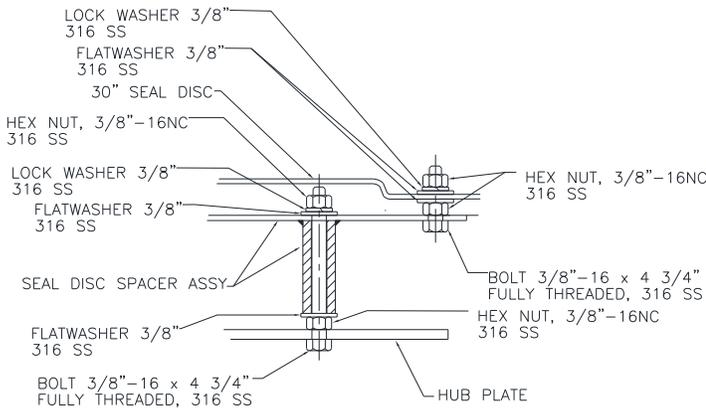
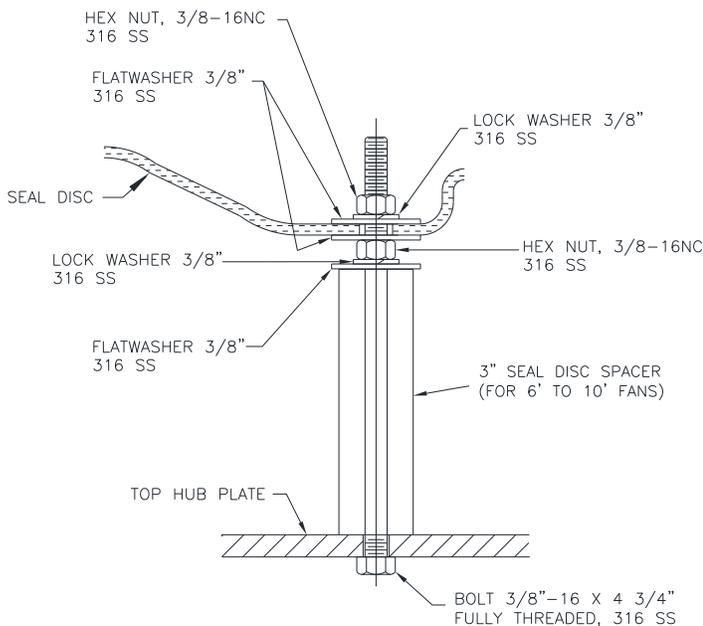

Figure 10: For 5' Dia. Fan Assemblies
Figure 11: For 6' to 10' Dia. Fan Assemblies
Fasten seal disc to top of hub with four (4) $3/8"$ cap screws, as shown in Figures 9. See Figure 10 for 5' fans, Figure 11 for 6' to 10' fans, and Figure 12 for 11' to 12' fans. Tighten to recommended standard of 15 ft-lb (lubricated) or 20 ft-lb (dry).